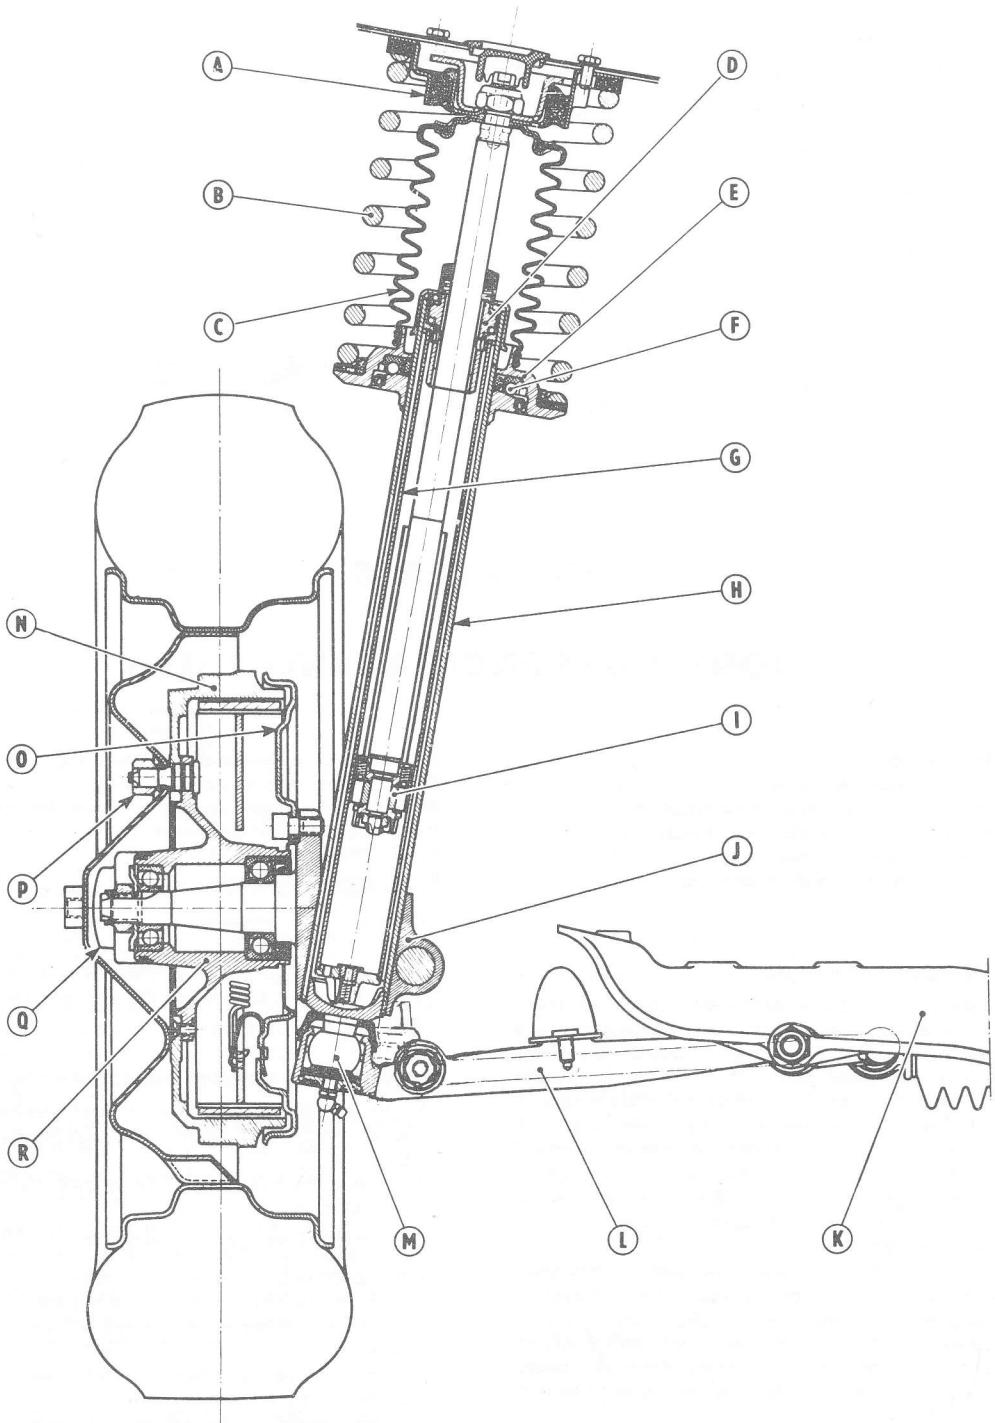

FIG 8:1 Sectioned view through the front suspension
The suspension units on each side consist of a telescopic shock absorber and a coil spring, resting on lower wishbones. The coils are mounted above the shock absorbers putting them above the level of the wheels as can be seen in the sectioned view of the suspension in FIG 8:1. This factor allows large wheel movements on bounce and rebound which evens out even the roughest of roads. Radius arms run from the lower location points of the spring legs forward to the chassis where they are rubber bushed. These take braking reactions and complete the suspension system.
- 3 Remove the flat D washer and withdraw the inner cone and race of the outer hub bearing (see FIG 8:2).
Key to Fig 8:1